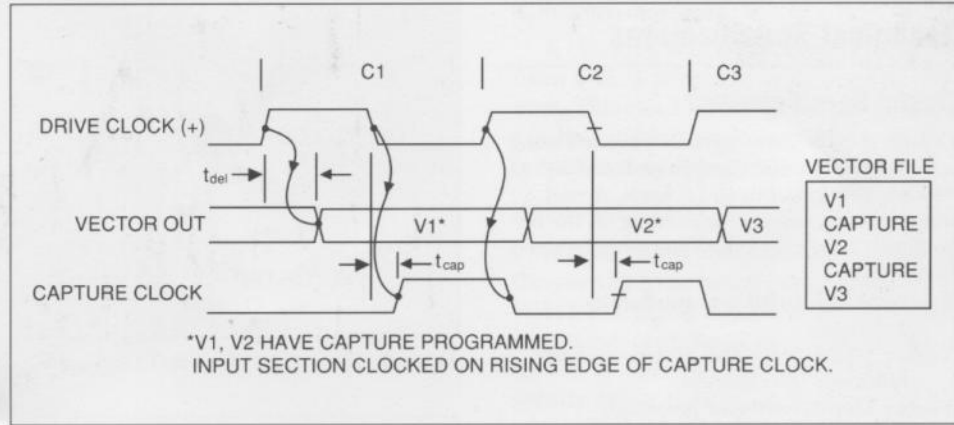

Figure 6. Capture Clock Timing
**Capture Clock Delay ( $t_{cap}$ ):** See Figure 6: Delay from non-clocking edge of DR CLK  $55 \pm 10$  ns. Delay from falling edge of INT CLK  $42.5 \pm 5$  ns.